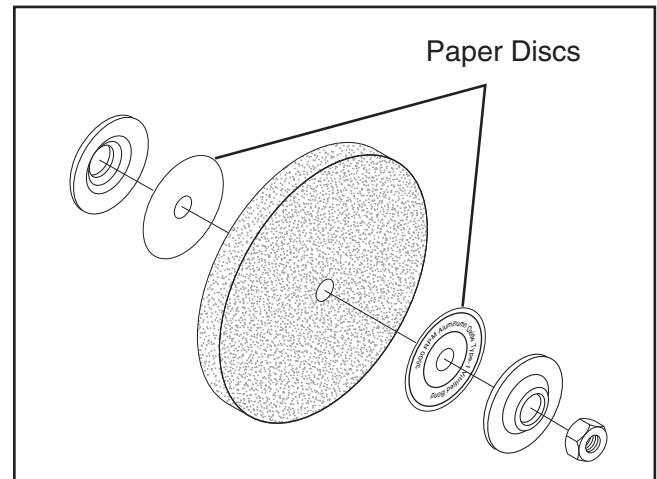

Figure 16. Assembly order for wheel installation.
6. Remove the wheel from the spindle. Notice the paper or fiber disc between the wheel flanges and the wheel itself. This helps to spread the rotational forces across the inner area of the wheel (see **Figure 16**).
7. Mount the new wheel in the order shown in **Figure 16**. Tighten the nut snugly but do not over tighten. Over tightening can crack the wheel.